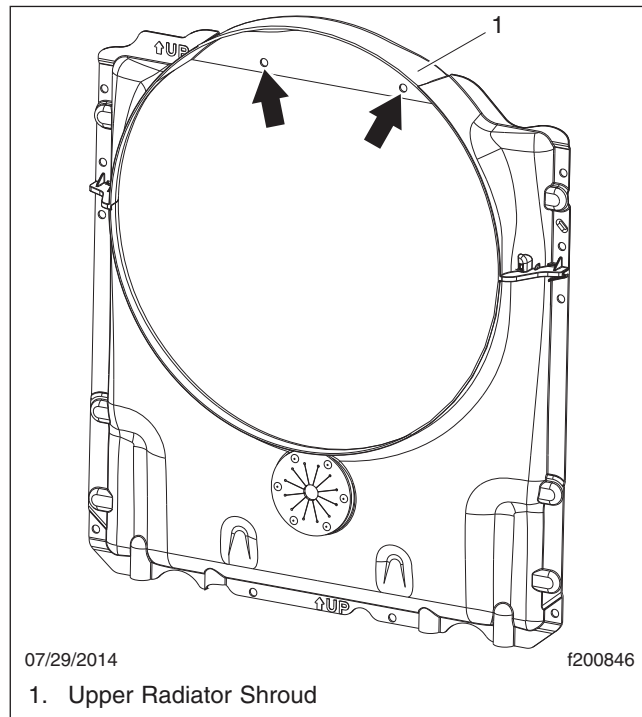

Fig. 1, Fastening Points
If the upper radiator shroud on a Freightliner 114SD equipped with a DD13 engine comes loose, it may be due to loose plastic push rivets (23-12274-003) that attach the shroud to the upper radiator tank. See Fig. 1 for the push rivet location. If needed, replace the push rivets with metal J-nuts, fender washers, and 1/4–20 x 0.5 bolts.
3. Install J-nuts on the radiator at the two fastening points. See Fig. 1. For the correct part numbers, see Table 1.